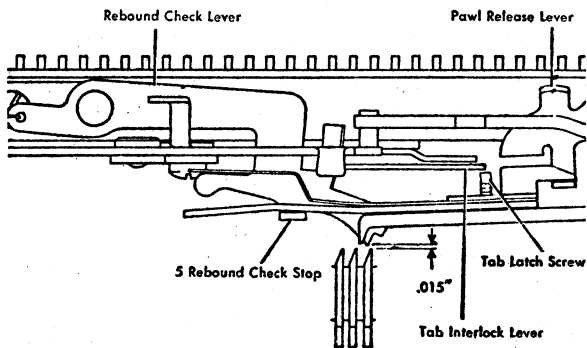

Figure 11. Tab Latching Adjustment
4. **THE TAB OPERATING LINK** is adjusted so that when the cam is on the high point the tab latch screw will overthrow the tab interlock lever by approximately $.010''$ (Figure 11).
5. **THE REBOUND CHECK STOP** should be formed so that when the tab lever is latched the tip of the rebound check lever clears the tab rack by $.015''$ with all tab stops cleared (Figure 11).
chine and move the tab lever out past its latched position. Form the extension at a point close to the tab lever so that the extension strikes the rebound check stop and halts the tab lever when the tip is .015" from the tab rack (Figure 11).